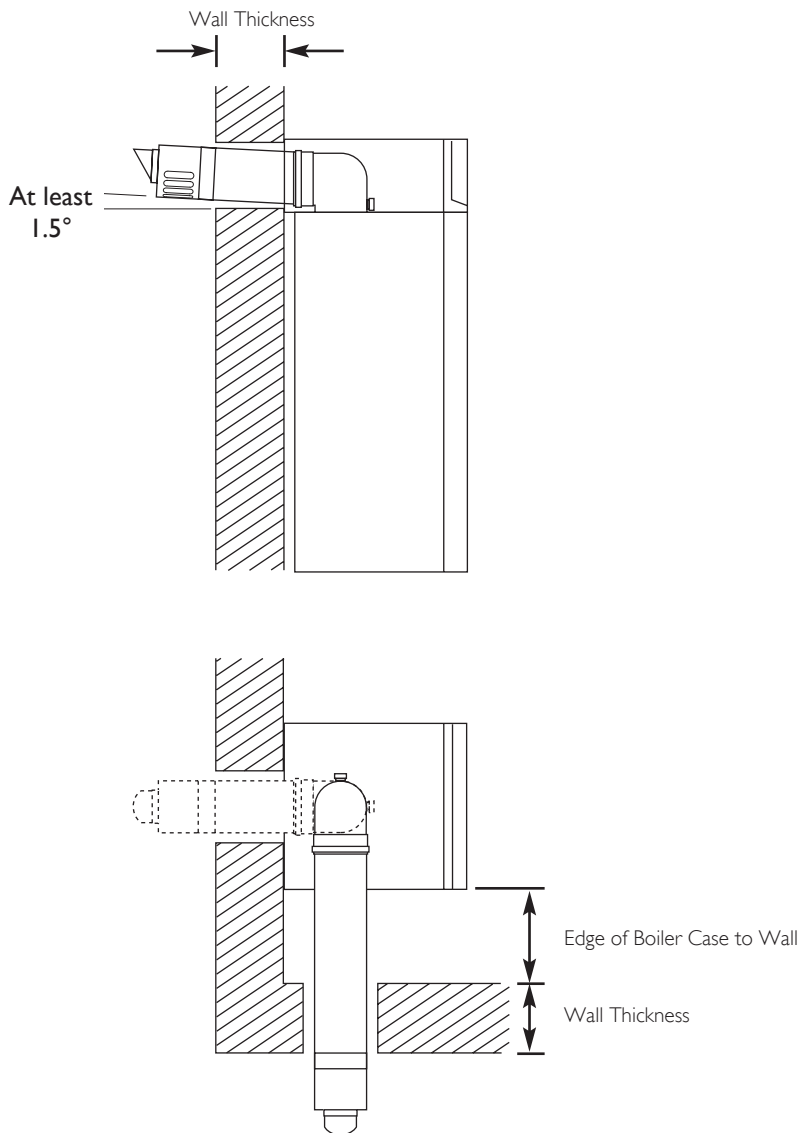
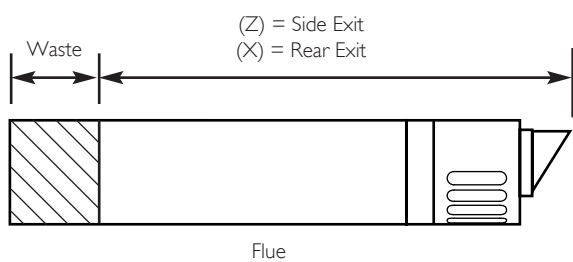

Fig. 26
Fig. 27
2. **For rear exit** - measure the wall thickness (Fig. 26) and to this dimension add 270mm. This dimension to be known as (X).
i.e. (X) = wall thickness + 270
3. Take the flue and mark off (X) from the terminal end as indicated in the diagram (Fig. 27).
4. **For side exit** - measure the distance from the edge of the boiler case to the inner face of the wall (Fig. 26) and to this dimension add the wall thickness + 280mm. This dimension to be known as (Z).
i.e. (Z) = case to wall + wall thickness + 280
5. Take the flue and mark off (Z) from the terminal end as indicated (Fig. 27).